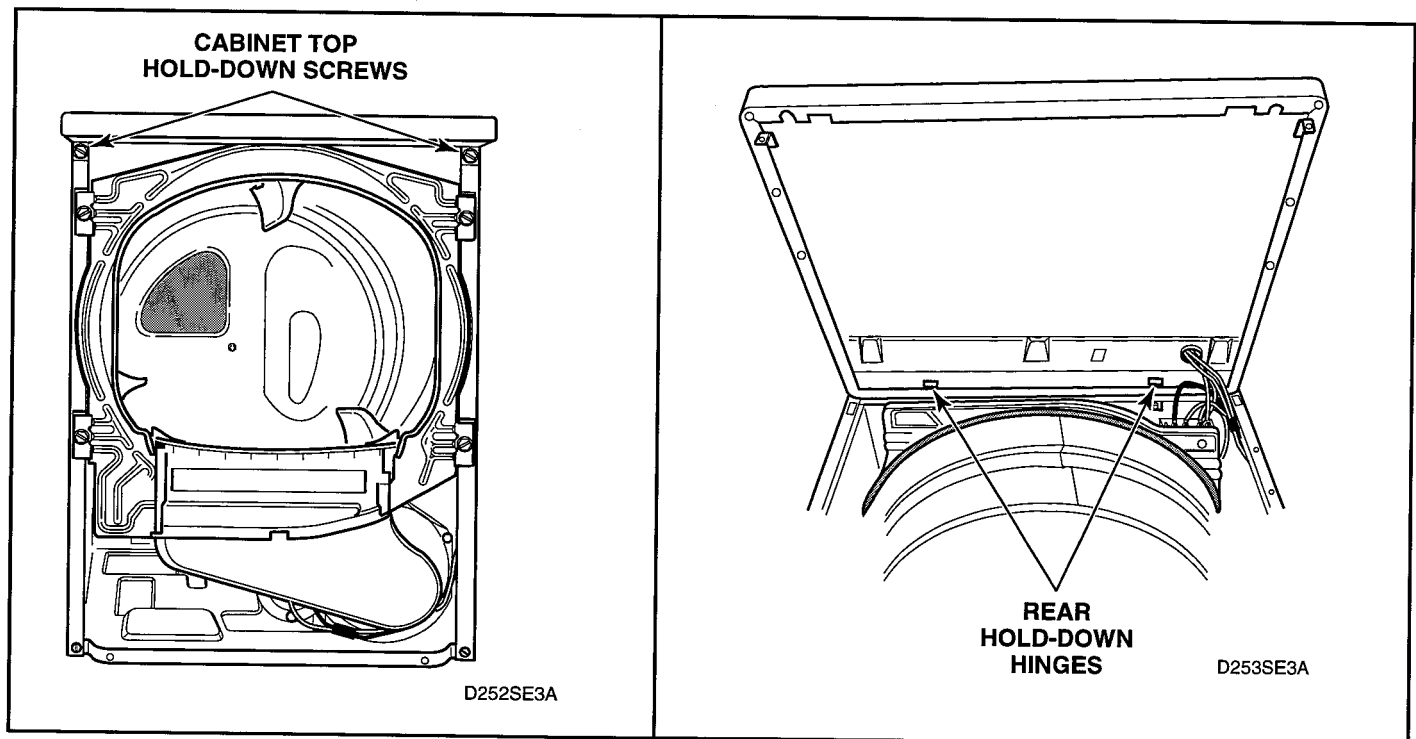

Figure 5-22
- Remove two cabinet top hold-down screws. See figure 5-22.
- Lift cabinet top to a vertical position by hinging it on the rear top hinges. See figure 5-22.
- Carefully withdraw wire harness through hole in cabinet top and lift the top off the top hinges. See figure 5-22.